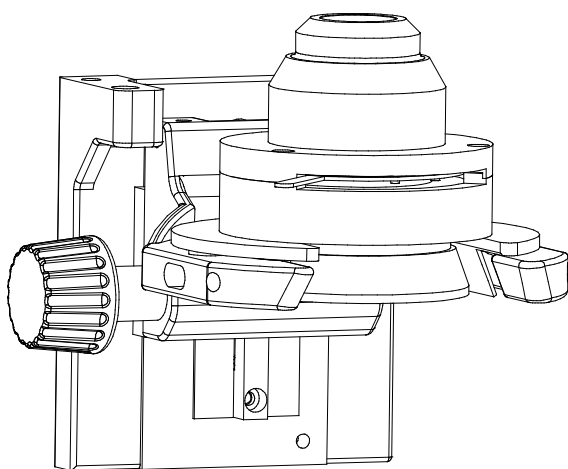

Fig.5
- (3) If you choose the dark field condenser to observation, you need to adjust the center of the condenser for the symmetrical illumination. If you choose the dark field immersion oil condenser to observation, you need to put some anisol to fill the room of the between of sample and condenser for the dark field observation, as be shown in Fig.5.